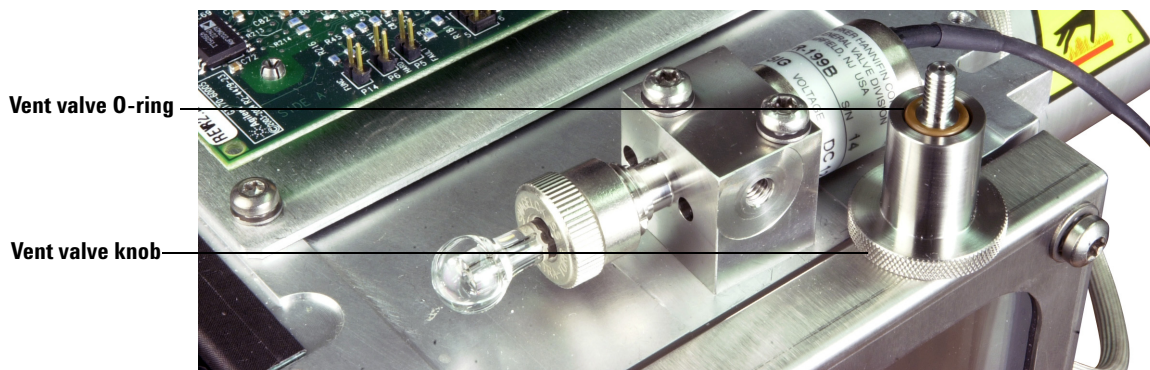

Figure 12 Vent valve O-ring
- 2 Completely remove the vent valve knob (Figure 12).